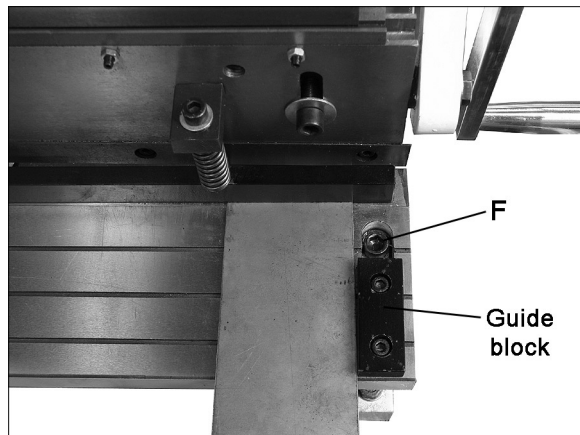

Figure 8
2. Place the workpiece against the block at the right edge of the table (Figure 8). The end of the workpiece should be against the guide plate.
2. If the shear does not cut the paper, loosen the socket head cap screw (F, Figure 8) at each end of the table, with an 8mm hex key.